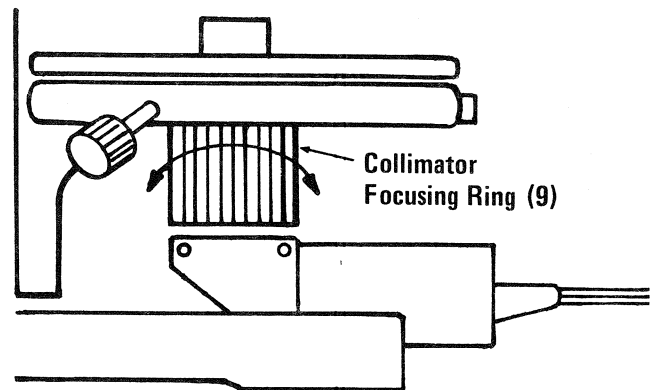

FIG. 6-5
- Turn on the collimator lamp (switch on power supply) and adjust the collimator by rotating the collimator focusing ring (9, Fig. 6-5) until the green colored cross lines come into sharp focus.
CAUTION: The collimator cross lines will come into, and go out of focus very rapidly. Rotate the focusing ring slowly. Fig. 6-5.